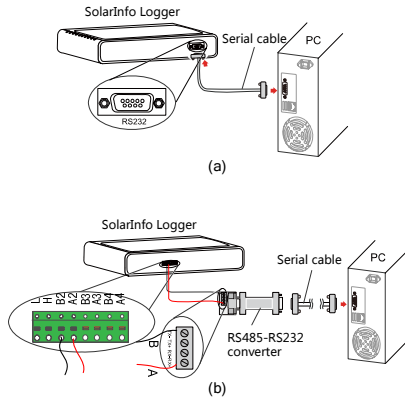

Fig. 9-5 Connection to PC through RS485/RS232
Step 1 Connect SolarInfo Logger from its RS232 or RS485 interface to the RS232 interface of PC. Use a serial cable to connect the RS232 interface of SolarInfo Logger to PC directly, as shown in Fig. 9-5(a). Or use a serial cable to connect the RS485 interface of SolarInfo Logger to the RS232 interface of PC through an RS485-232 converter, as shown in Fig. 9-5(b).